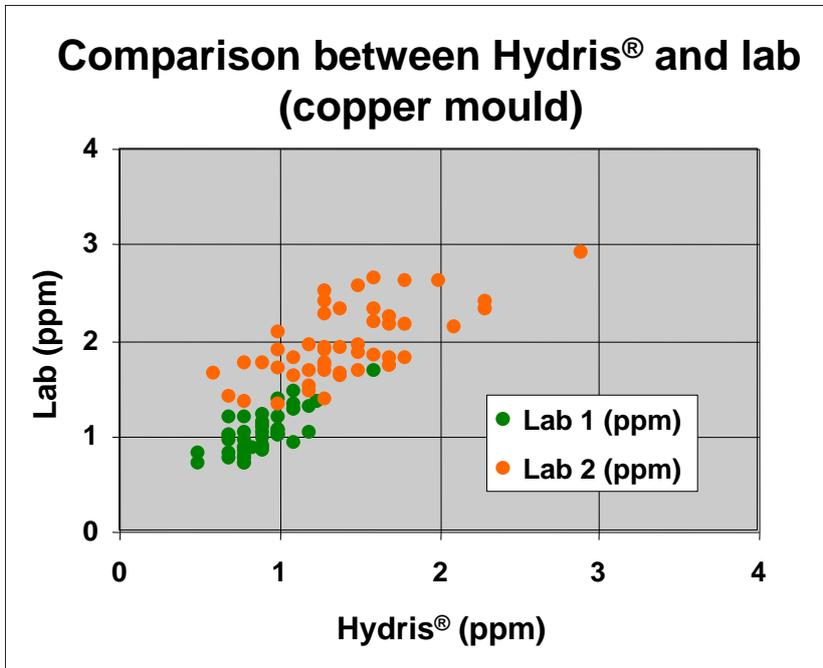

**Fig. 3**
**Fig. 3** shows the deviation to HYDRIS®. Comparison was made to 2 lab analysis. It is obvious that the pin sampling method suffers from hydrogen losses due to rapid diffusion. Even though good sample chill was used, just HYDRIS® catches hydrogen values above 6ppm. This pin-sampling disadvantage is critical, as blowhole formation due to excessive hydrogen may be underestimated this way.